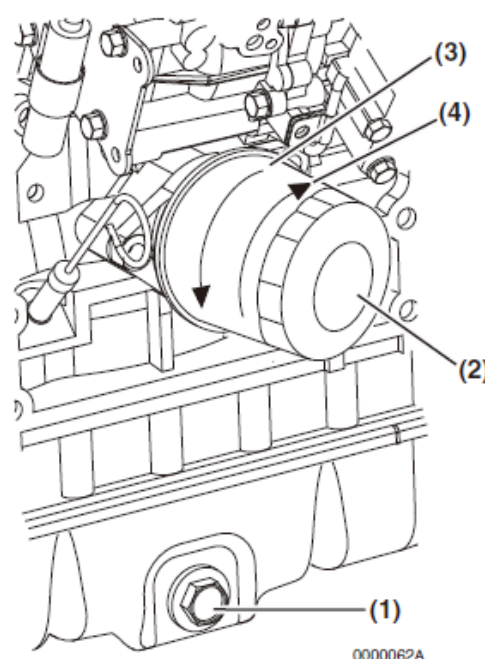

Fig.9-3
6. Remove the oil drain plug (**Fig.9-3, (1)**) from the engine oil pan. Allow oil to drain.
7. After all oil has been drained from the engine, reinstall the oil drain plug (**Fig.9-3, (1)**) and tighten to 40-47 ft-lb (53.9-63.7 N·m, 5.5-6.5 kgf/m).
1. Turn the engine oil filter (**Fig.9-3, (2)**) counterclockwise (**Fig.9-3, (3)**) using an oil filter wrench.
3. Lightly coat the gasket on the new oil filter with engine oil. Install the new engine oil filter manually by turning it clockwise (**Fig.9-3, (4)**) until it contacts the mounting surface. Tighten to 14-17 ft-lb (19.6-23.5 N·m, 2.0-2.4 kgf/m) or one additional turn using the oil filter wrench.